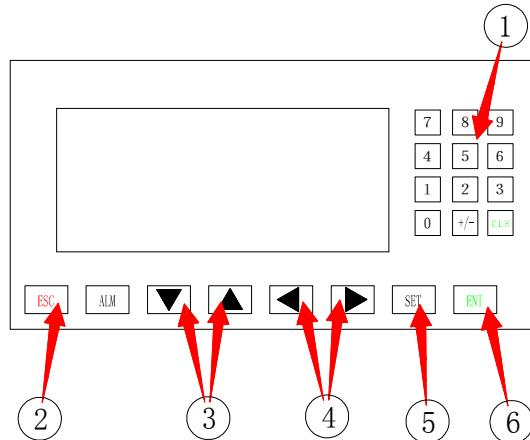

FIG 2-32
- Press the numeric key 2 in the main menu after machine starts (FIG 2-32, POS1);
- Select functions with the keys ↑↓ (FIG 2-32, POS 3);
- Activate or exit with the key ENT or ESC (FIG 2-32, POS 6/2).